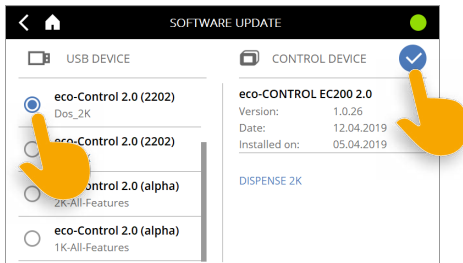

Fig. 90
- ▶ Select the top program in the list first, and confirm your selection (Fig. 90).